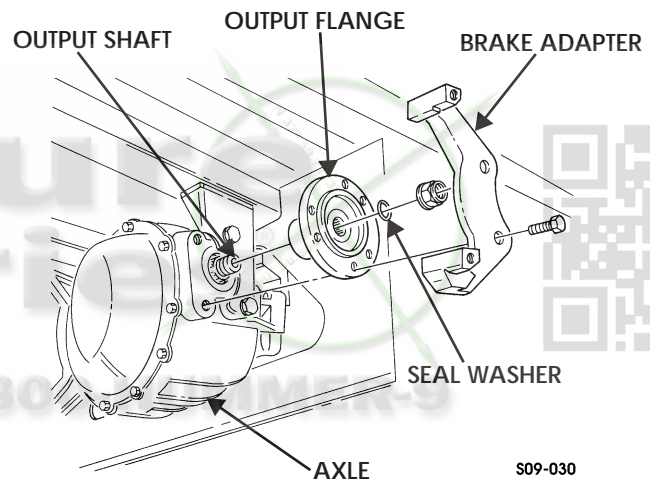

Figure 9-42: Brake Adapter and Output Flange
2. Remove locknut, seal washer, and output flange from output shaft. Discard seal washer and locknut (Figure 9-42).
4. Apply thread-locking compound to tapped holes of axle and install brake adapter on axle with two capscrews. Tighten capscrews to 110-139 lb-ft (149-189 N•m) (Figure 9-42).